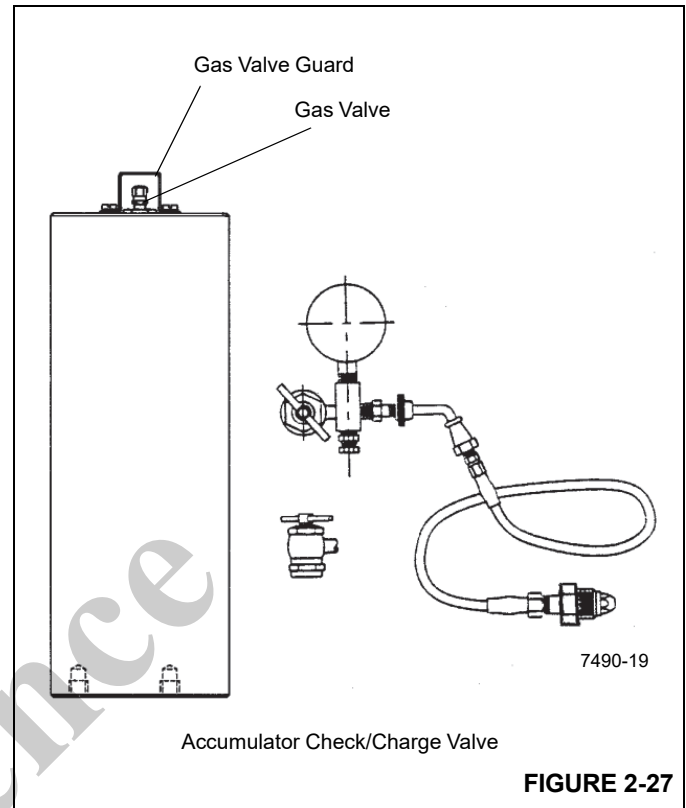

FIGURE 2-27
1. With the engine off, discharge all of the pressurized oil stored in the accumulators by depressing the service brake pedal on the cab floor 4 – 6 times. Remove the gas valve guard and cap on the accumulator (Figure 2-27).
2. Before attaching the gas charging assembly (Figure 2-27) onto the gas valve, back out the gas chuck “T” handle all the way out (counterclockwise).
6. If the pressure is within the specified tolerance, remove the charging valve assembly by turning the “T” handle all the way out on the gas chuck and then opening the bleed valve (Figure 2-27).
7. If the pre-charge is higher than specified in step #6, close the nitrogen bottle and slowly open the bleed valve on the charging assembly (Figure 2-27) until the pressure is to specification.